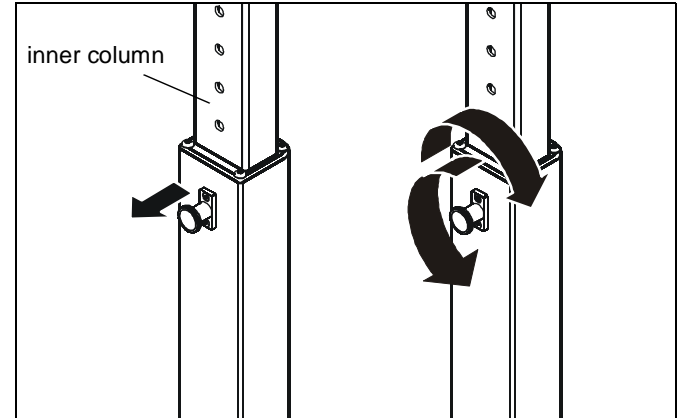

Figure 2
2. Lift up on the inner column of center post. (See Figure 2)
3. Pull out knob on the center post and turn 90° in either direction to disengage the locking mechanism. (See Figure 2)
4. Raise the inner column and turn the knob 90° in either direction to engage the knob and lock the column in place. (See Figure 2)